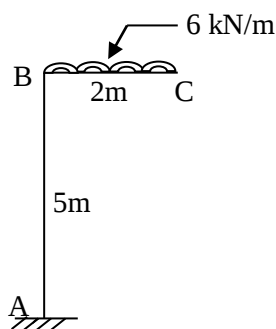

Figure :1, Q.3 (b)
- (b)** Find vertical and horizontal displacement at point C for cantilever frame as shown in figure 1. (Use unit load method). **07**